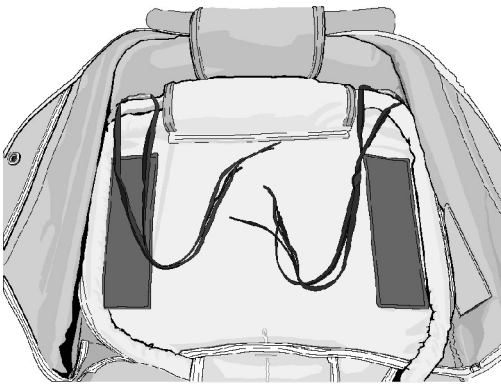

Figure 9. Routing of Lacing Tape
e. Torque barrel nuts to 10 in-lbs. \pm 2 in-lbs. (QA)
c. Cut two 36-in. pieces of lacing tape. Route one 36-in. piece of lacing tape doubled, through each of the two parachute attachment loops located at the bottom of the parachute compartment (Figure 9).